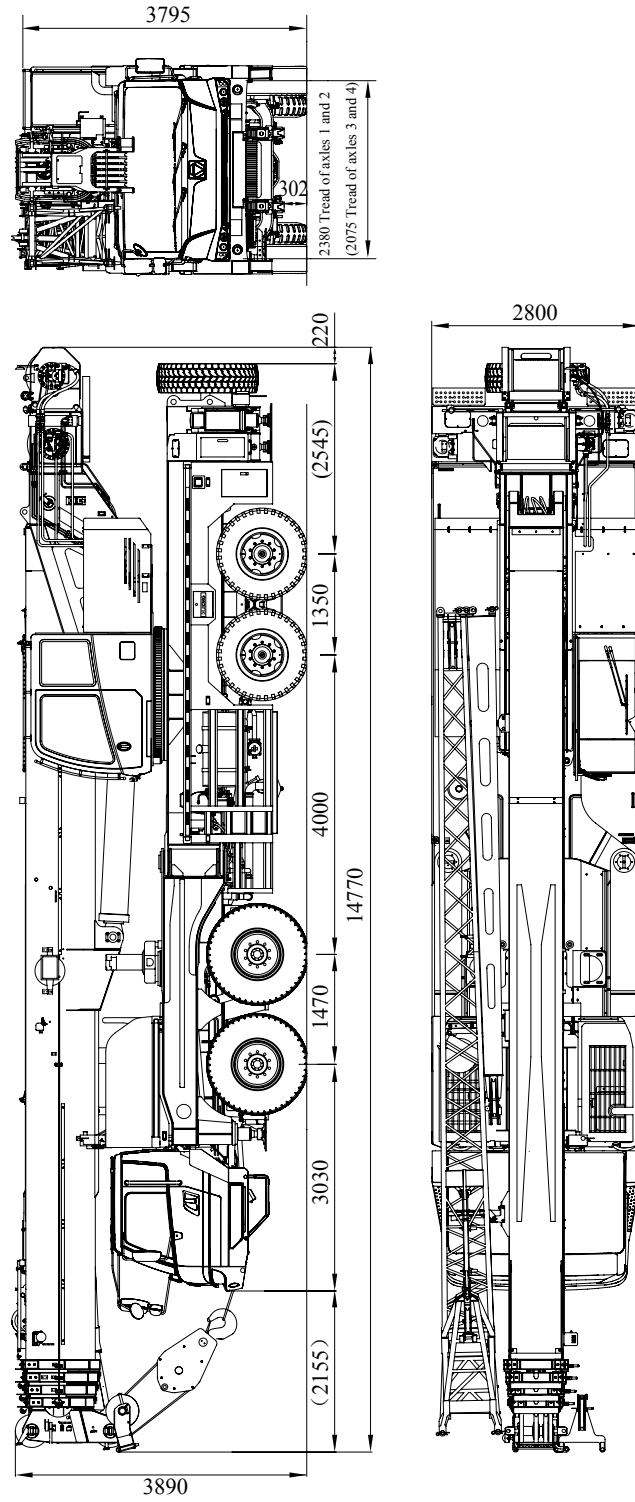

Figure 5-1 XCT80 crane traveling state dimension and parameters
- a. Overall size: see Figure 5-1;